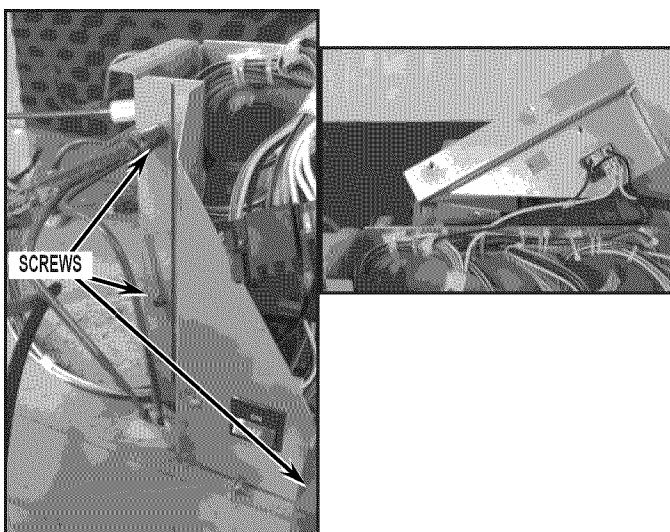

FIGURE 16
21. Remove 3 switch plate mounting screws. Move switch plate to give space for making wiring connections and removing old HV board. See *Figure 16*.